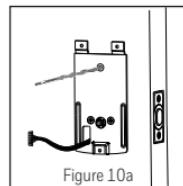

Figure 10a
- Using a 1/16" (2mm) drill bit, drill a pilot hole in your door using the Mounting Plate upper hole as a guide (Figure 10a).
- Insert one 3/4" (19mm) screw(C) and tighten.